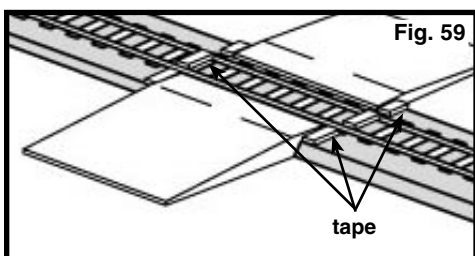

Fig. 59
- C. Cut and place short lengths of Paving Tape between the rails and between the outside of the rail and the side of the Incline (Fig. 59 ).